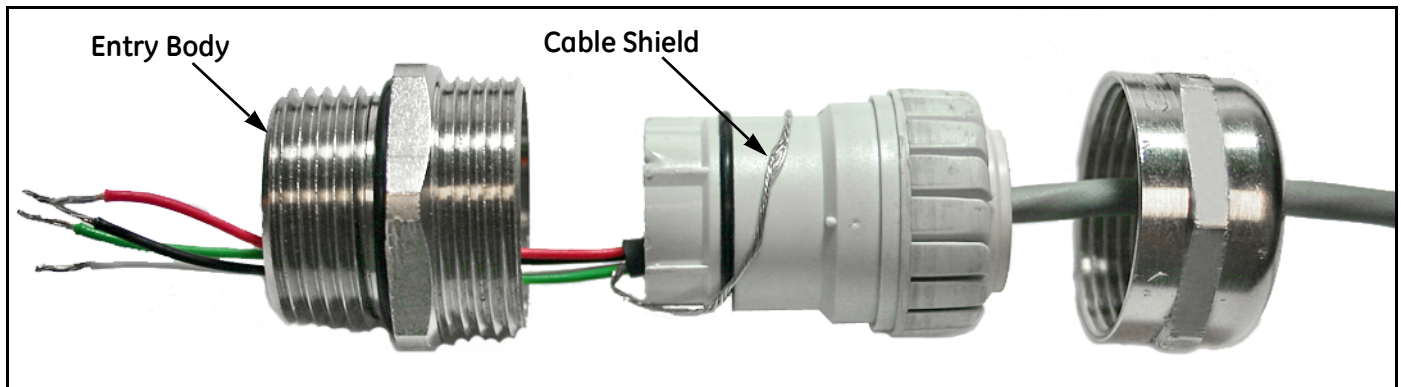

Figure 89: Proper Cable Gland Assembly (Panametrics p/n 419-215)
- b. Route the 4-wire power/analog output cable through the cable gland as shown in *Figure 89* below.
IMPORTANT: The cable shield must be terminated in the cable gland as shown in *Figure 89* below.
- b. Route the 3-wire RS232 cable through the cable gland as shown in *Figure 89 on page 103*.
IMPORTANT: *The cable shield must be terminated in the cable gland as shown in Figure 89 on page 103.*